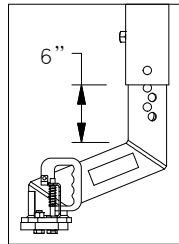

Figure A1: Extend-A-Goose coupler
- ⚠ WARNING:** Installing the Extend-A-Goose with more than 6" of the coupler tube exposed past the end of the coupler sleeve could result in serious injury, or death, See Figure A1